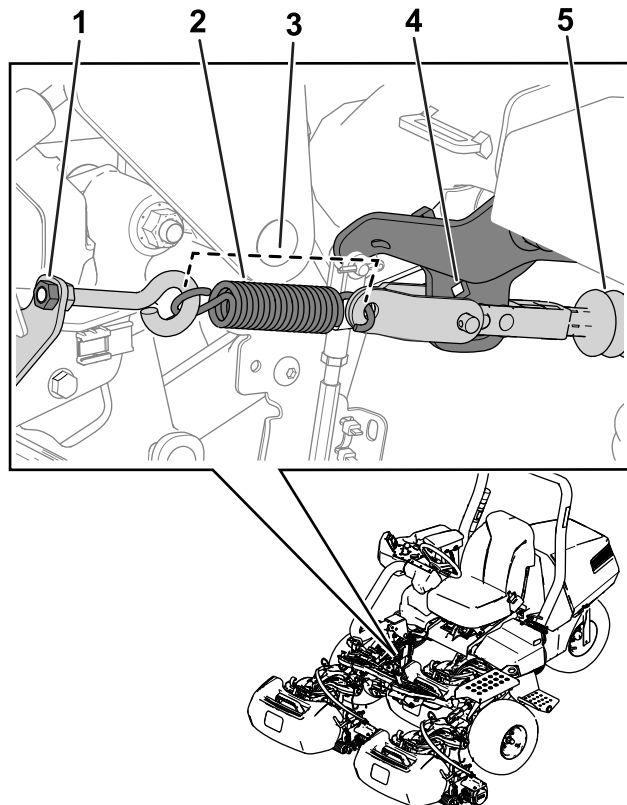

Figure 24
2. Tighten the eyebolt nut for the brake-actuator spring so that the spring length is 11.4 cm (4.5 inches); refer to Figure 24.